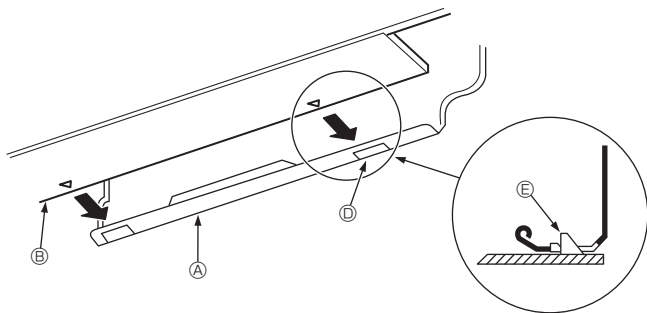

Fig. 3-24
3. While inserting the water piping and drain hose into the wall penetration hole (penetration sleeve), hang the top of the indoor unit to the mount board ①.
5. Fasten by pushing the bottom part of the indoor unit onto the mount board ①. (Fig. 3-24)
* Check that the knobs ⑤ on the bottom of the indoor unit are securely hooked into the mount board ①.